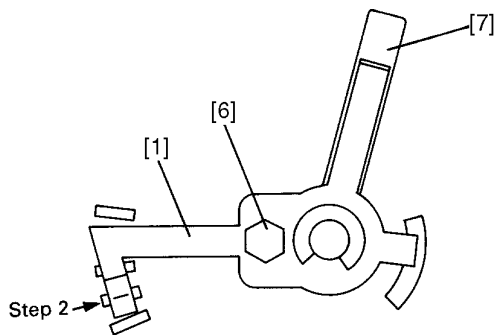

Fig. 3-2 Position of Adjustment Lever
- (1) Remove the printer mechanism according to the procedures described in Chapter 4.
- (2) Unfasten the screw [6] securing the adjustment lever [7] and the index lever [1].
- (3) Holding the index lever [1] at the position shown in Fig. 3-2, shift the adjustment lever [7] for gap adjustment.
- (1) Remove the upper case unit according to the procedures described in Chapter 4.
- (2) Move the carriage unit [2] right and left two or three times in order to familiarize yourself with the timing belt [3].
- (3) Set the index lever [4] at step 2 as shown in Fig. 3-2.
- (4) Move the carriage unit [2] to the right end.
- (5) Set the arm [5] of the tension gauge [1] 142mm apart from the frame L.
- (6) Move the tension gauge [1] in the direction of the platen [6] until it stops. Then place the arm [5] of the tension gauge on the timing belt [3].
- (7) Loosen the screw [7].
- (8) Insert a flat-blade screwdriver into the square hole of the tension arm [8] and adjust the belt tension by moving the tension arm [8] left or right.
- (9) When the belt has been adjusted to the prescribed tension, tighten the setting screw [7].
- (10) If the belt cannot be adjusted to the prescribed tension, replace it with a new timing belt [3].